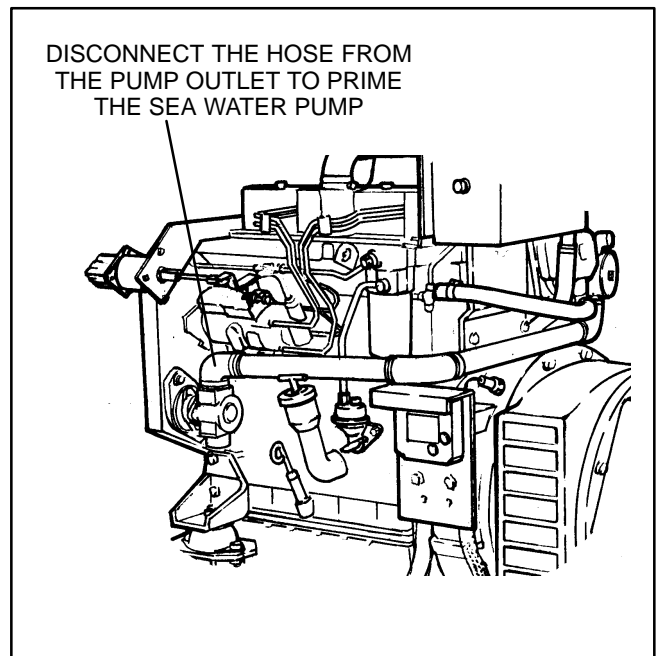

FIGURE 5-4. PRIMING THE SEA WATER PUMP
1. If the set is heat exchanger cooled, prime the sea water pump by disconnecting the pump outlet hose and pouring water into the pump outlet (Figure 5-4). Reconnect the hose and open the sea cock.